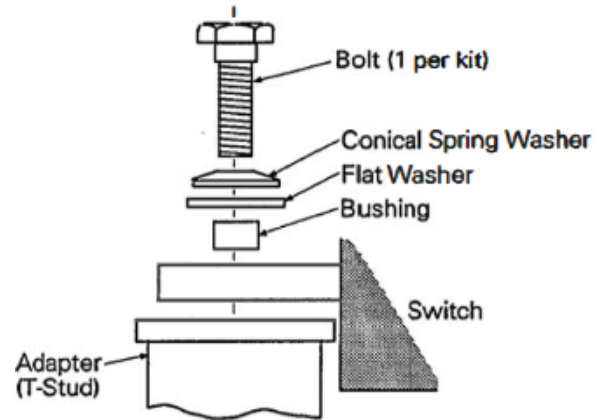

Figure 5. Typical assembly of bus adapter, catalog number THPCOBFCA.
- Figure 5 for catalog number THPCOSFCA.